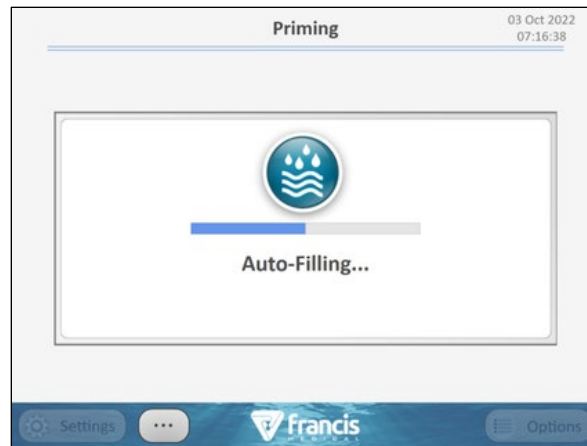

Figure 11-12: Auto-Refilling Screen
3. Select **[Full]** (B).
- The Screen will display “Auto-Filling...” with a status bar (**Figure 11-12**)